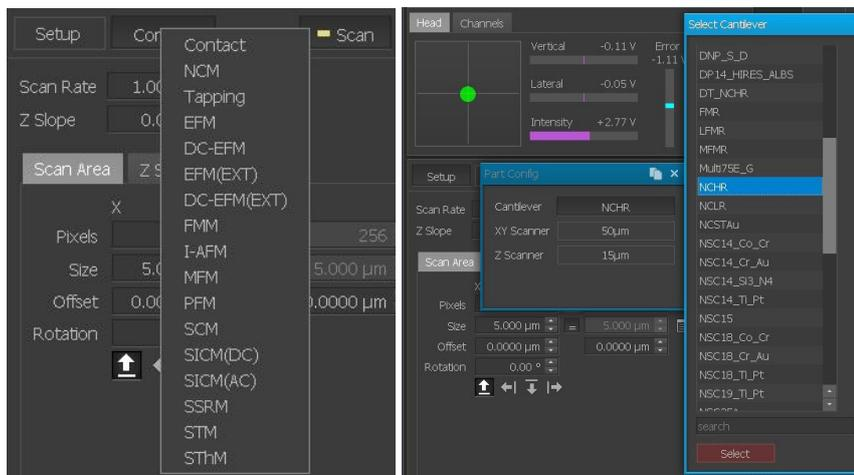

Figure 6-5. Part Selection Dialog
1. Attach the head to the NX10 main system in inverse order of Figure 6-5